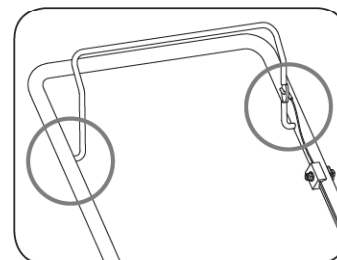

Figure 8
1. Lubricate pivot points on the blade and drive controls at least once a season with light oil. These controls must operate freely in both directions. (See **Figure 8**)